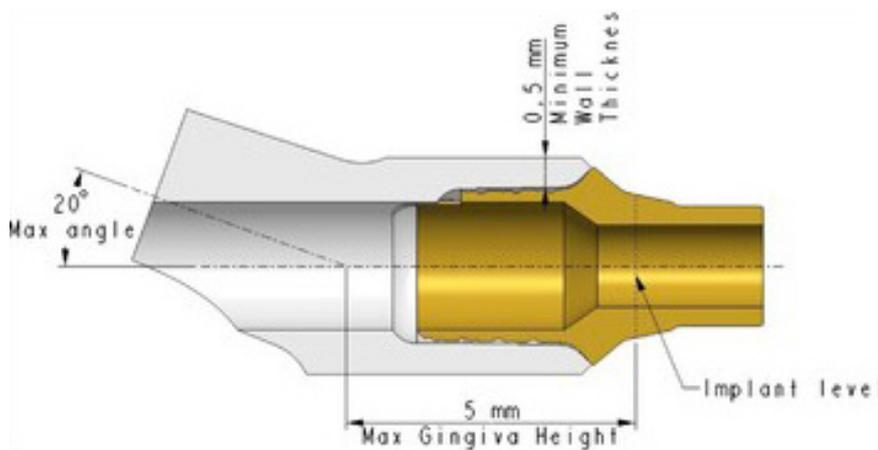

Figure 1: Worst case dimensions of zirconia superstructure
- Maximum angle of zirconia superstructure = 20° (See Figure 1)
- Minimum wall thickness of zirconia superstructure = 0.5 mm (See Figure 1)
- Maximum gingival height (from the top surface of the implant) = 5 mm (See Figure 1)